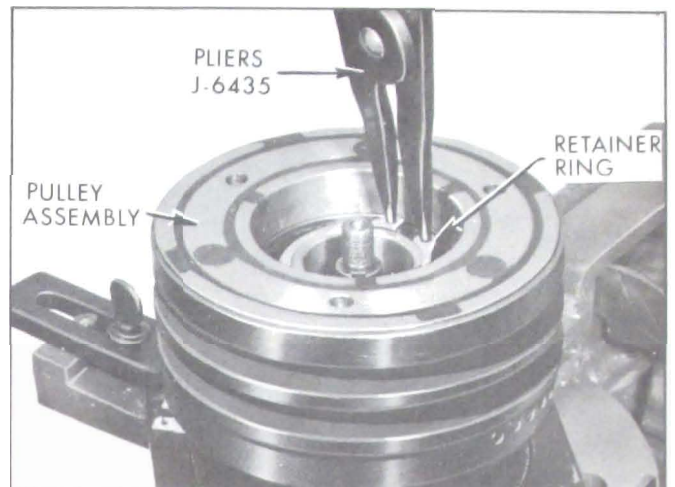

Figure 11-81—Removing Pulley Retainer Ring
2. Remove pulley assembly retainer ring, using J-6435, No. 26 Truarc pliers. See Figure 11-81.